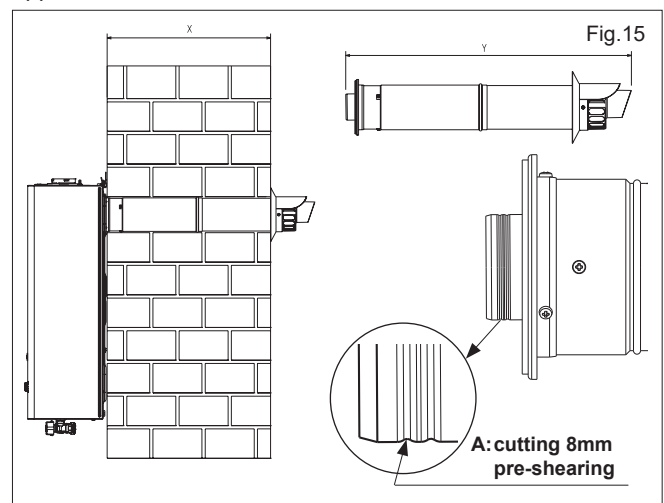

Fig. 15
5.5.1.2 FITTING THE REAR FLUE (fig. 15) (rear flue outlet only)
NOTE: The inner 60mm pipe of the rear flue terminal must be cut by 8mm at the point indicated (fig. 15 pos. A).